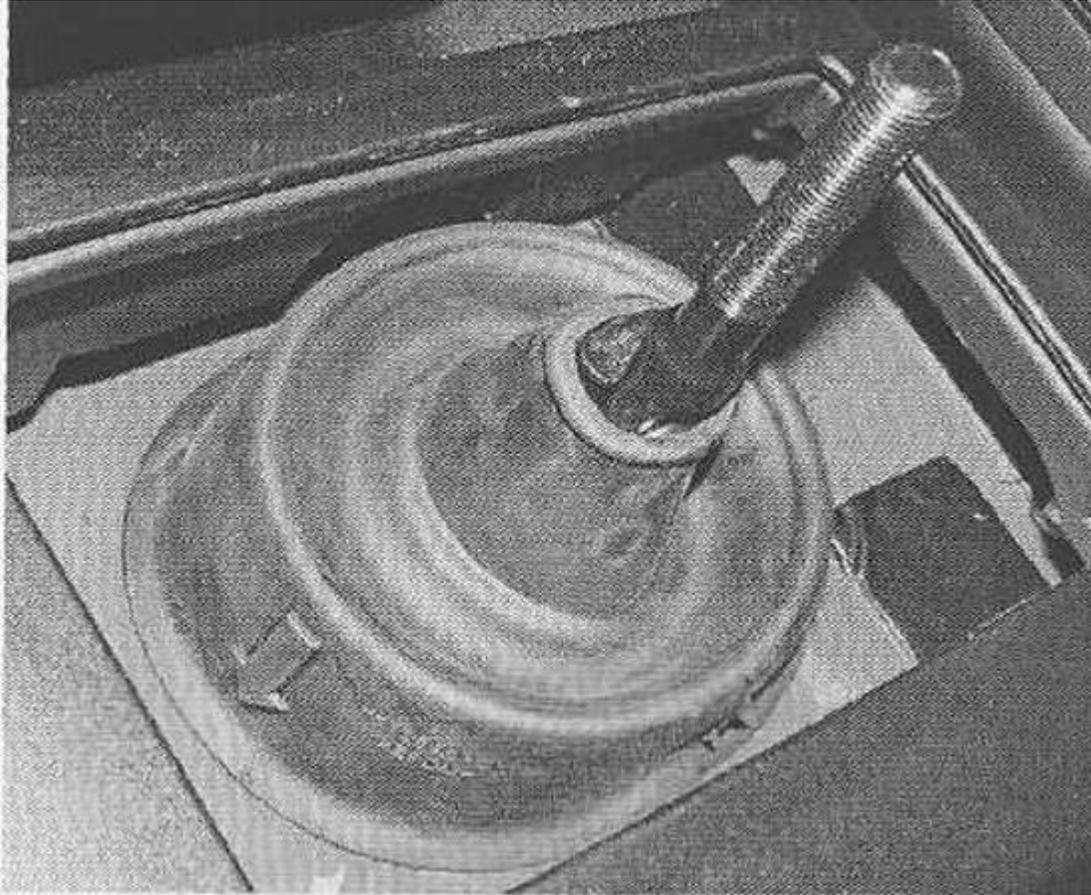

Figure 18
8. Replace the large rubber dust boot onto the ROUSH shifter assembly. Align the boot so that the arrows are facing the front and rear. Check to be sure that groove in dust boot is seated properly into floor tunnel. Slide the center of the boot down over the bolts for the upper stick. (Refer to Figure 18)